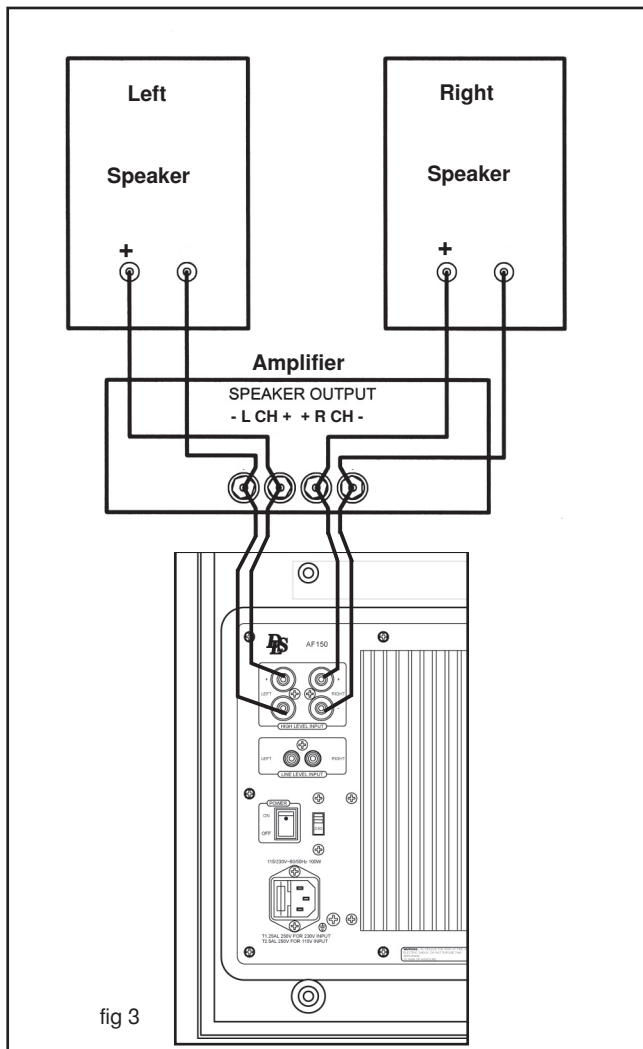

fig 3
Connect the speaker outputs of the stereo power amplifier to "left (L) & right (R) "HIGH LEVEL INPUT" respectively, fig. 3